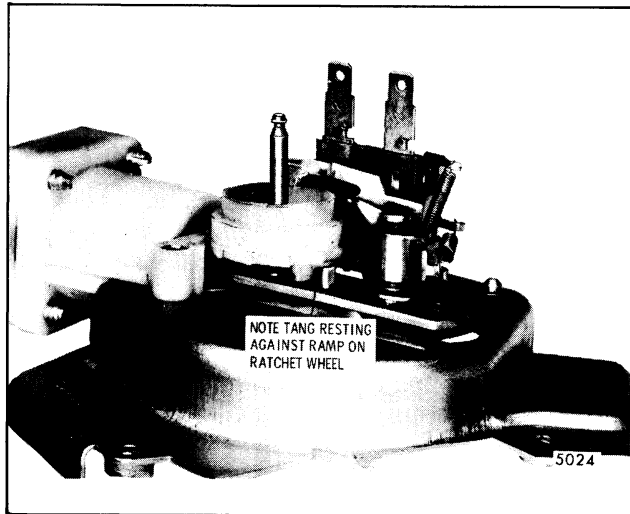

Fig. 2-69-Ratchet Wheel-Ramp
Refer to Figure 2-69 and note that a tang on the piston actuator plate is resting against a ramp on the lower surface of the ratchet wheel. This, in effect, holds the piston actuator plate in a lock-out position.
The ratchet wheel pawl, which is actuated by the same cam-follower pin that moves the piston actuator plate, begins to rotate the ratchet wheel. Rotating the ratchet wheel one tooth moves the ratchet wheel ramp away from the tang of the piston actuator plate (Fig. 2-69), permitting the piston spring to expand which in turn forces the piston toward the valve assembly resulting in the first exhaust stroke. This sequence then repeats through the remaining cycles.
2. The tang on the piston actuator plate is resting once more against the ramp on the lower side of the ratchet wheel (Fig. 2-69).